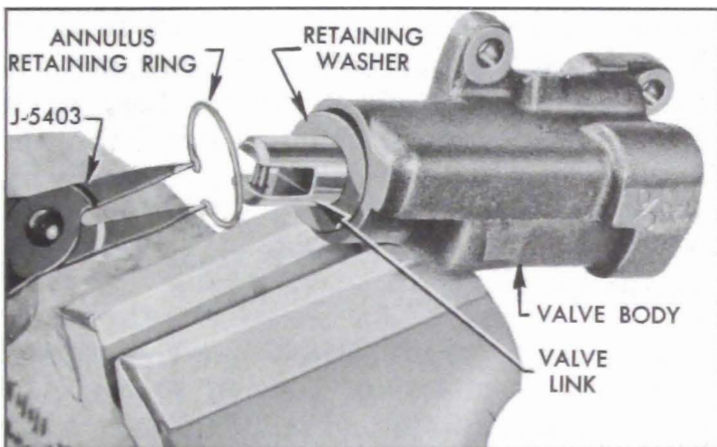

Figure 8-20—Removing Annulus Retaining Snap Ring
1. Remove annulus retaining snap ring using No. 1 Truarc Ring Pliers J 5403 and annulus retaining washer. Then slide spool assembly out of the valve body. Care should be taken to see that neither the spool assembly or the valve body are scratched or dropped. See Figure 8-20.